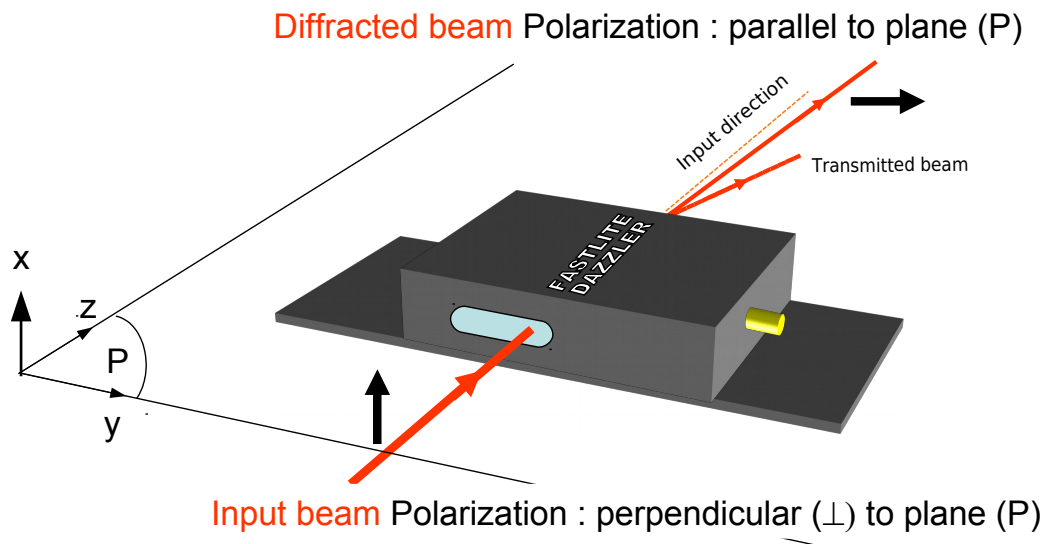

Figure 3.3: Dazzler crystal installation
- the input beam polarization: linear, orthogonal to the diffraction plane (see Figure 3.3),
4. install the crystal unit in the beam line. The crystal unit is not symmetric. The input face is the one close to the "D" of the "Dazzler" label. The output face is the one close to the "R" of the "Dazzler" label (Figure 3.3),
The input optical wave propagates through the crystal while interacting with the acoustic wave (refer to chapter 2 for more details). Two different waves leave the crystal: the diffracted and the transmitted (non-diffracted) waves as shown in Figure 3.3. The (P) plane corresponds to
Put the detection diode on the transmitted beam (Figure 3.3). Change the second order phase value to cover 2/3 of the full time window on the software time graph and apply full power. Observe the drop of signal on the scope. The maximum drop corresponds to the diffraction efficiency of your Dazzler system. It should be at least 50% for a laser source of bandwidth smaller than 100nm .